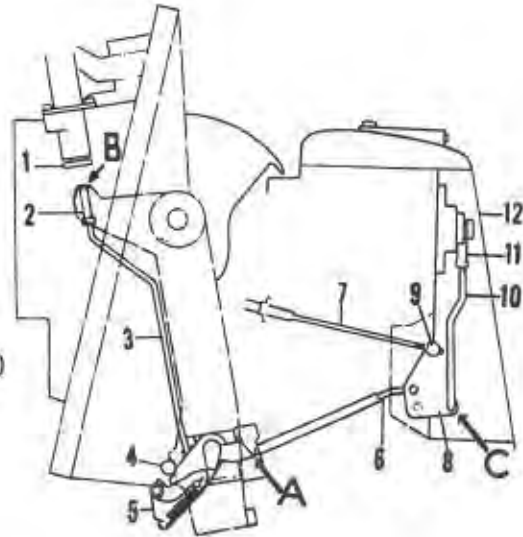

Fig. 14. Adjusting retaining pawl, drive 270
Check once each season, and adjust when necessary, the position of the locking rod against the retaining pawl (A, Fig. 14) and also the position of the push rod B) for lift disengagement of the retaining pawl. Adjust as follows:
1. Remove the protective cover (12, Fig. 14) on the upper gear housing so that the shift mechanism is accessible. Move the control lever to the neutral position.
2. Disconnect the gear control cable "dice" (9) from the lever (8) and the yoke (11) from the gear lever.
3. Loosen the locknut for the yoke (11) and turn the yoke on the gear rod (10) thread so that at the connection with the gear lever the push rod (6) goes into such a position that it just contacts (without pressure) the pawl at "A". Secure the yoke (11) in this position with the locknut.
4. Adjust the gear cable "dice" (9) so that it can easily be moved into the hole on the lever (8) and secure it in this position. Move the control lever to the "Forward" position and check that the corner "C" does not contact the intermediate housing. Fit the cover over the gear shift mechanism.
5. **Press the drive forward, against the adjusting pin,** and check the position of the push rod (3). The upper part (2) of the rod should be level with the yoke at "B". This is to enable the lift (1) to disengage the retaining pawl (5) when tilting up. Adjust the length of the push rod if necessary by loosening the locknut and turning the upper part of the rod (2).
2. Remove the protective cover (12, Fig. 14) over the shift mechanism. Move the shift mechanism lever to neutral position.
4. Check that the "dice" and the gear rod (10, Fig. 14) are properly adjusted by moving the control lever to "Forward", "Neutral" and "Reverse" while checking at the same time that the "dice" and gear rod do not jam in their bearings. Adjust if necessary.
Check to make sure that the corner "C" (Fig. 14) does not contact the intermediate housing.